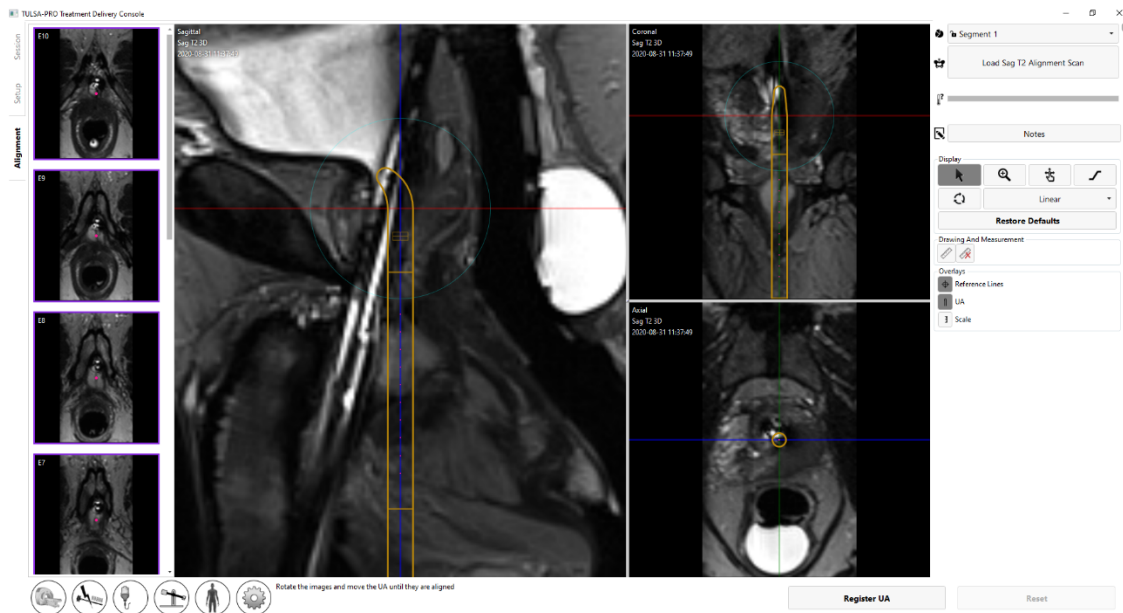
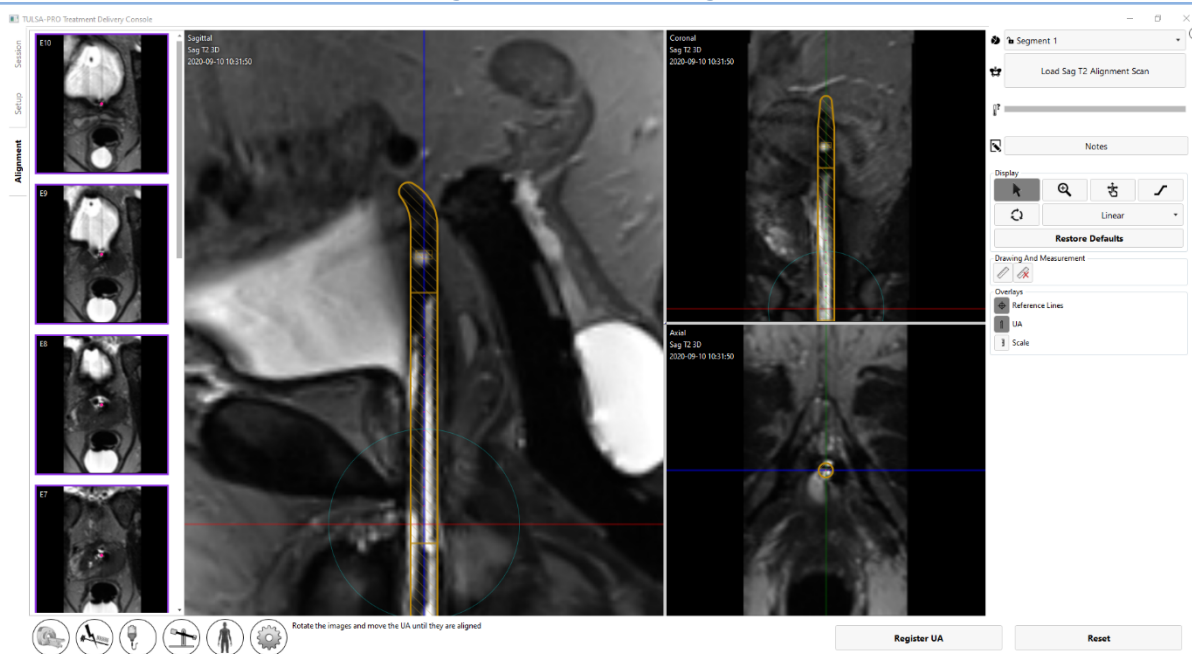

Figure 32: UA before alignment
Figure 33: UA after alignment
**Radiologist:** Use the Alignment workspace to define the location and angulation of the UA in the TDC software by aligning a graphical representation of the UA with the actual UA on the MRI image in three dimensions. Accurate alignment will be critical to safe and effective heat delivery within the intended tissue volume. See example below of the UA in MR images before (*Figure 32*) and after (*Figure 33*) Alignment.